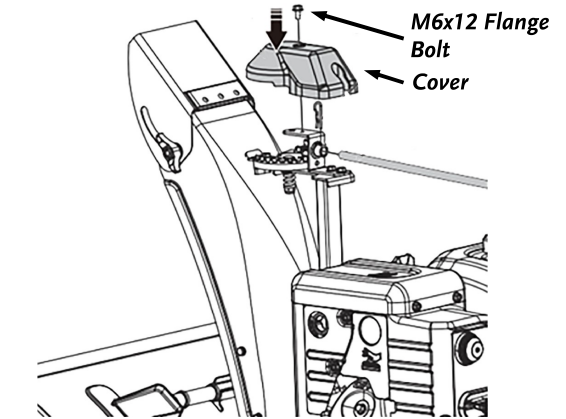

Figure 17
2. Install Chute Rotator into Steering Gear Hole and insert the Pin (**Figure 17**).